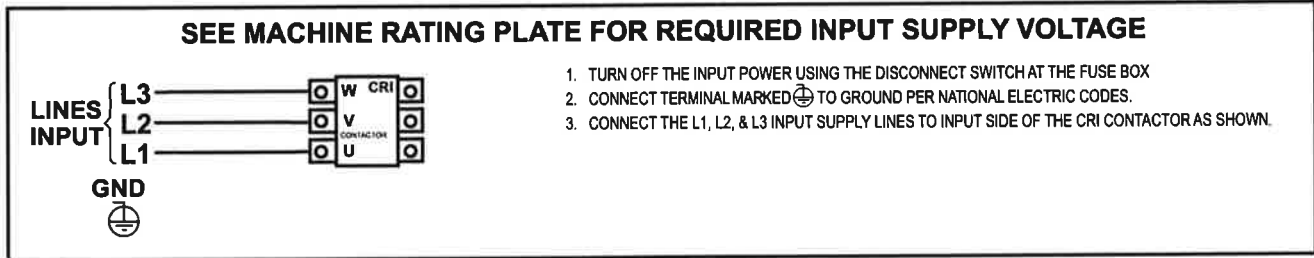

FIGURE A.7-Reconnect Panel Board Positions for Single Voltage Machines
4. For Single Voltage, see Figure A.7. (S17894)